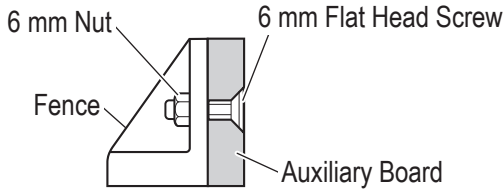
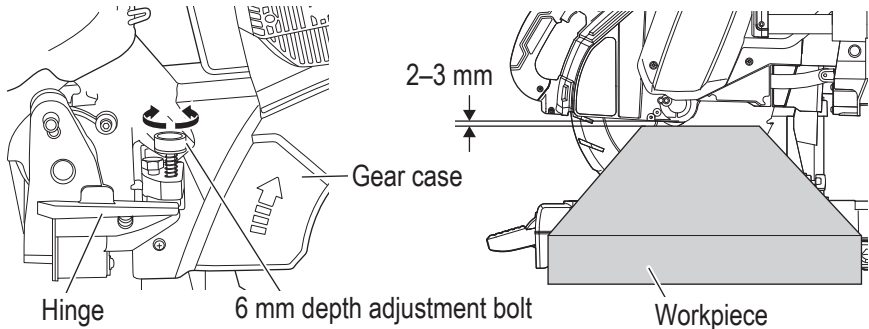

Fig. 29
Fig. 30
6. Cutting large workpieces (Fig. 29, Fig. 30)
There may be case when a complete cutting cannot be done depending on the height of workpiece. In this case, mount an auxiliary board with the 6 mm flat head screws and the 6 mm nuts using the 7 mm holes on the fence surface (two holes on each side). (Fig. 29) Refer to "SPECIFICATIONS" for the thickness of the auxiliary board.
To adjust the lower limit position of the saw blade, follow the procedure (1) shown in Fig. 30.
- (1) Lower the motor head, and turn the 6 mm depth adjustment bolt and make adjustments so that there can be a clearance of 2 mm to 3 mm between the lower limit position of the motor head and the top of the workpiece at the saw blade's lower limit position where the tip of the 6 mm depth adjustment bolt contacts the hinge.